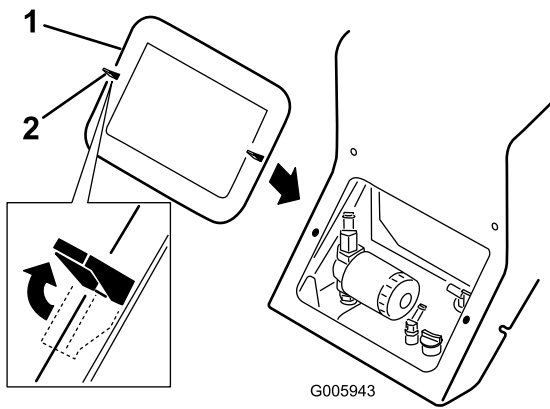

Figure 25
3. Release the two locking tabs (Figure 25, top, left tab illustrated).